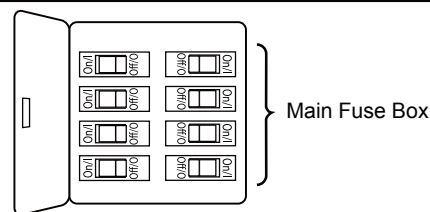

Figure 1
To avoid possible fire or shock, be sure electricity is turned off at the main fuse box before hanging. (Figure 1)
- ☐ 1. To set the code on receiver unit, slide dip switches to the same positions as set on the remote. (Figure 1)